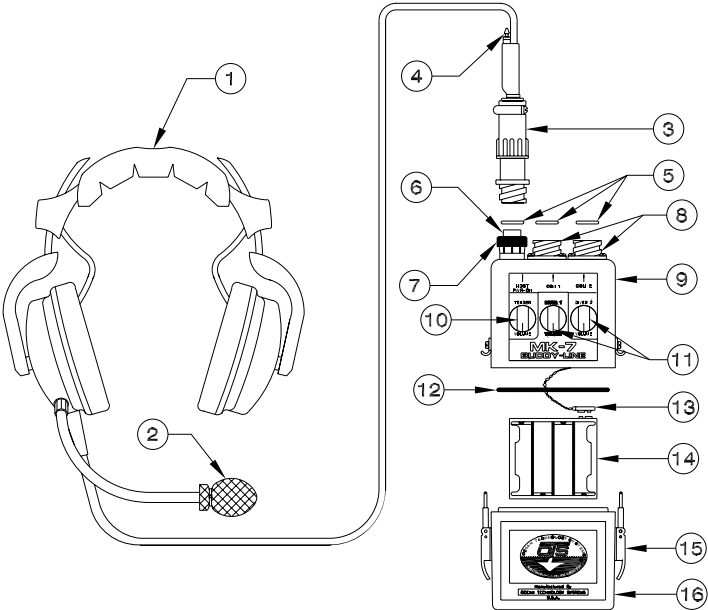
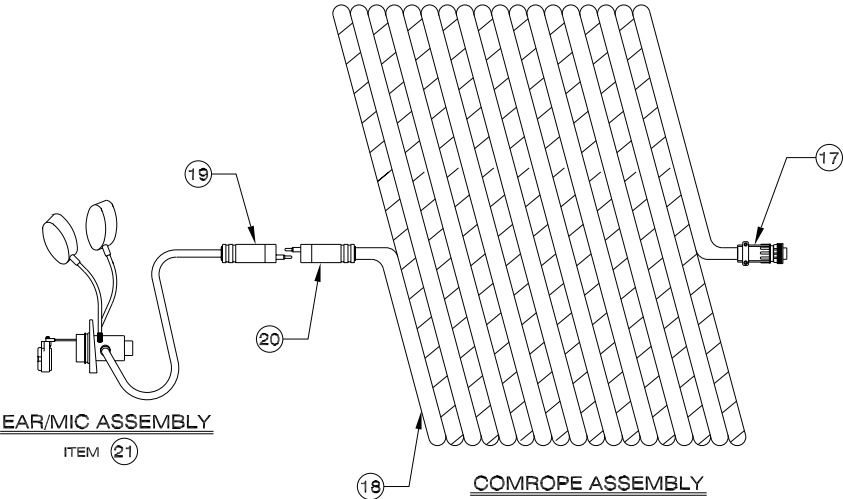

FIGURE 1: MK-7 Buddy-Line
FIGURE 2: ComRope & EMA-2 assemblies
The following are the item numbers and descriptions for Figures 1, 2 (p. 5), and 3 (p. 7):
- 4.1.2 Connect the headset's Amp connector to the upper electronics module's Amp connector (Fig. 1, #3 & 6).
- 4.1.3 Locate the Amp connector on the ComRope, and mate it to the Amp connector located on the top of the electronics module (Fig. 1, #8 and Fig. 2, #17). If there is a second diver, do the same for his connection.
With the MK-7 Buddy-Line is provided an SP-8 eight-cell AA battery holder located in the lower housing (Fig. 1, #14, on p. 5). If you use alkaline instead of rechargeable batteries, install the **eight AA alkaline batteries** as follows:
1. Locate the latches on the sides of the lower housing (Fig. 1, #15, on p. 5). Pull up on the latches simultaneously.
2. Separate the upper and lower modules while being careful not to damage the battery snaps, wires, or o-ring (Fig. 1, #12 & 13).
3. Remove the SP-8 eight-cell battery holder (Fig. 1, #14) and install eight fresh, 1.5-volt alkaline AA batteries per the diagram on the SP-8.
4. Carefully connect the wire harness connector (Fig. 1, #13) to the SP-8 battery holder. Verify that both spring-type connectors mate firmly and that you have not accidentally bent the connectors.
5. Verify that the o-ring (Fig. 1, #12) is in place, lightly lubricated with a high-grade silicone grease, and free of debris.